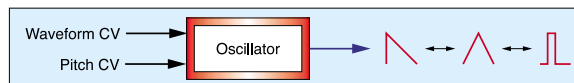

Figure 6: An oscillator capable of morphing from one waveform to another smoothly in real-time.
- So which synthesizer waveform should we use for our sound? One answer remains the sawtooth, the only common waveform that includes all the harmonics in the series. It's inevitable that these harmonics will be present in the wrong proportions, but at least they're present. However, a better choice would be to use an oscillator with a CV input that allows us to modify the harmonic content of the wave during the course of the note. At this stage, we've no way of knowing what we might apply as the modifying CV, but at least the facility is available (see Figure 6, above right).